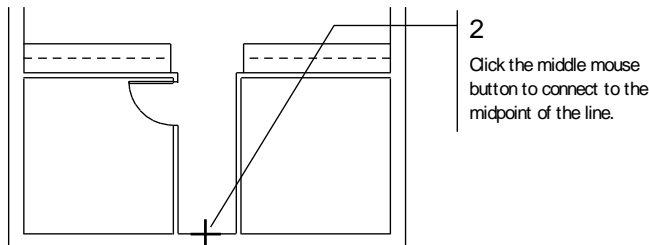

Figure 3.37: Defining the center of the front door.
2. Move the mouse to the location shown in Figure 3.37. Click the middle mouse button to snap to the midpoint of the inside front wall. You are prompted to *Select strike side of door*.